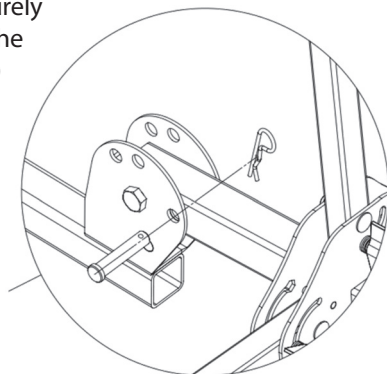

FIGURE 15
**Do not place bikes on the wheel cradle when operating the tilt down feature.** For access to the rear of vehicle, remove 5/8" pin and allow the rack to tilt downward. For safety, be sure to securely hold the bike rack while the pin is out. (See Figure 15)